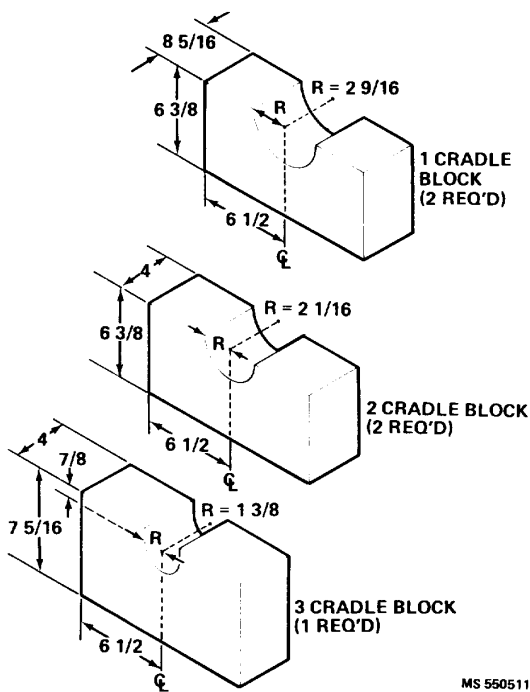

Figure C-5. Elevator and Retractor Motor Cradle Blocks
- (1) Place part in 24 x 16 x 0.004-inch polyethylene bag (intimate wrap).
- (2) Cushion, using polyethylene foam blocks as shown in figure C-5.